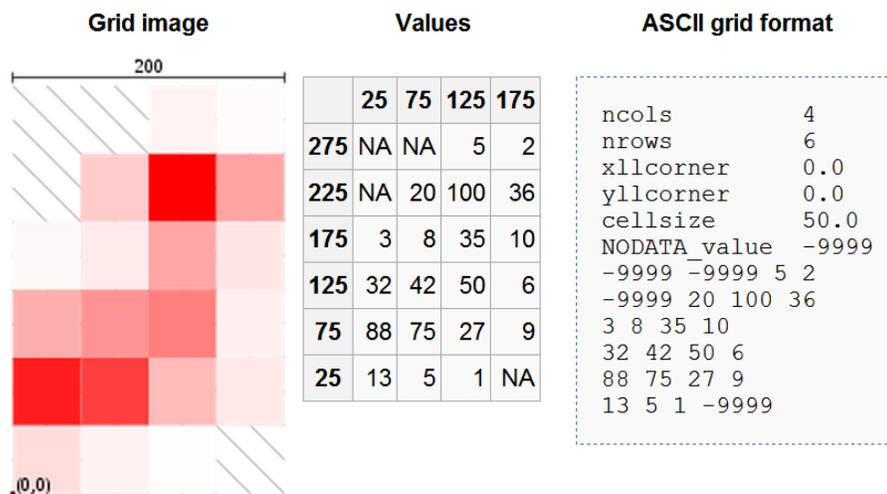

Figure 5.1. Raster DEM Format. Adapted from Wikipedia.
- **ASCII Grid and Raster DEM:** The format is relatively straight-forward: the first six lines indicate the reference of the grid, followed by the values listed in the order they would naturally appear (left-right, top-down). Figure 5.1 shows an ASCII grid file representing a grid and its values. The variables of the ASCII grid file are described below.